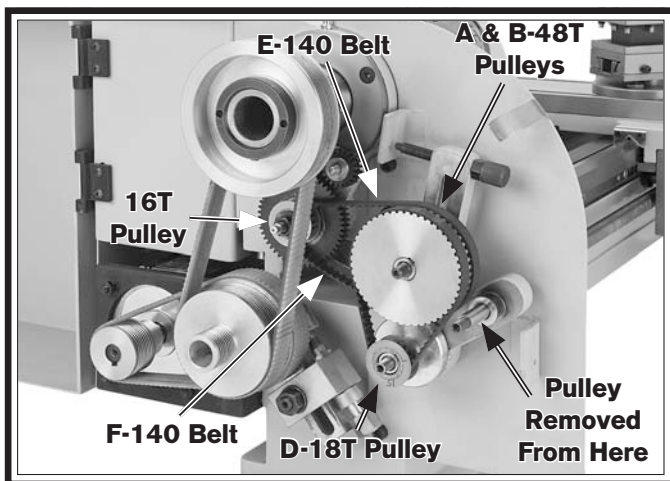

Figure 62. Threading timing belt and pulley identification.
- Remove the pulley and bushing from the **A–B** pulley shaft (see **Figure 62**).